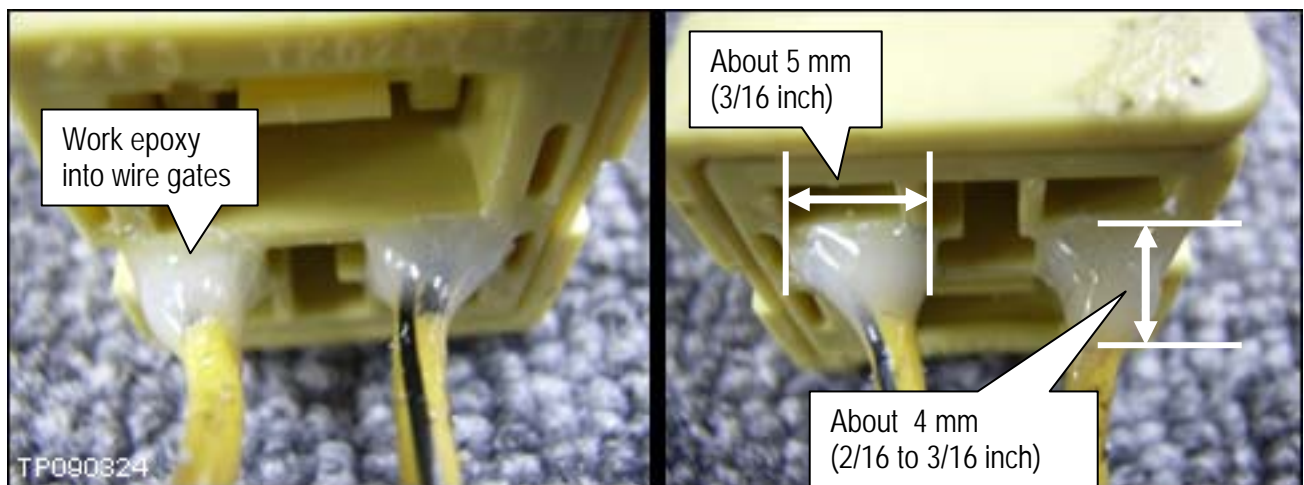

Figure 20
24. Apply epoxy to the back side (wire gates) of the side air bag harness connector (see Figure 20).
- Apply epoxy about 5 mm wide around the wire and about 4 mm from the connector (see Figure 20).